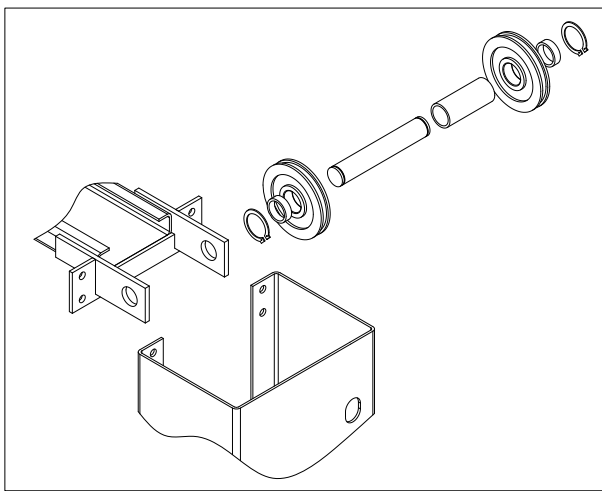

Fig. 31
- ◆ Connect crossbeams to both columns according to **Fig. 31**. (*Notice that the limited switched is inside the main column.*)